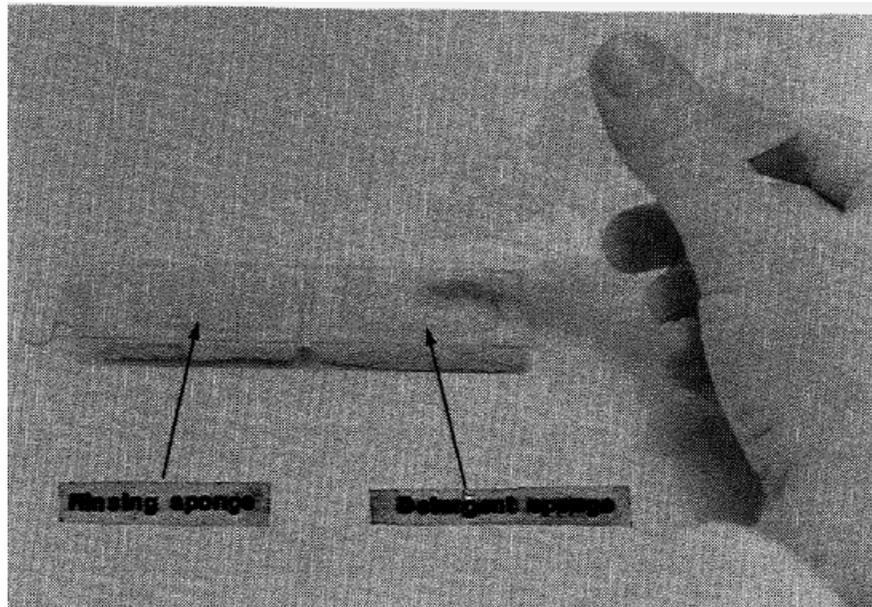

Figure 9. Sponge tray with sponges
- Step 4.** Place the sponges in the plastic cassette tray. Be sure they are flat and fill their compartment (see Figure 9).
- Step 5.** Place 40 drops of detergent (supplied in the carrying case) on the detergent sponge (the sponge farthest from the tray handle, Figure 9).